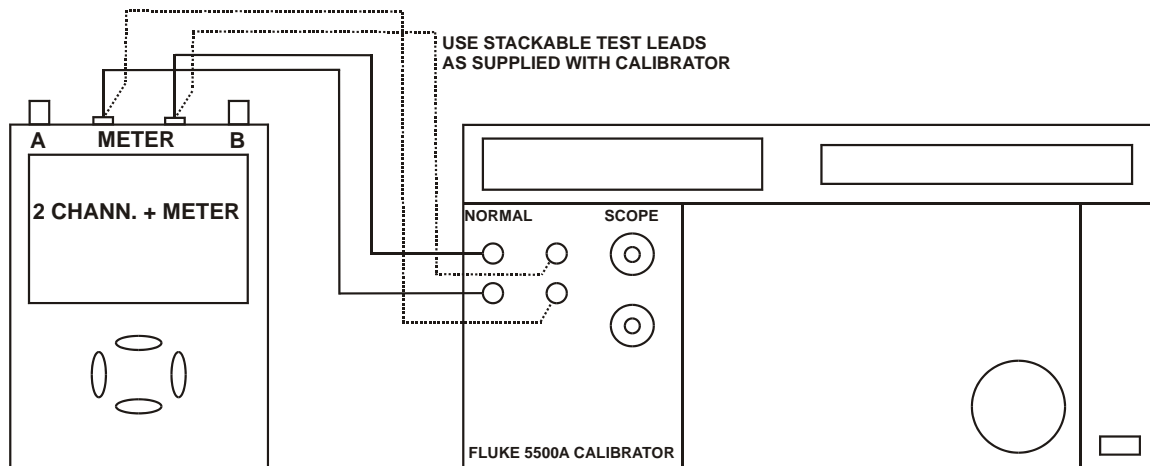

Figure 5-10. Four-wire Ohms calibration connections
2. Connect the test tool to the 5500A as shown in Figure 5-10.